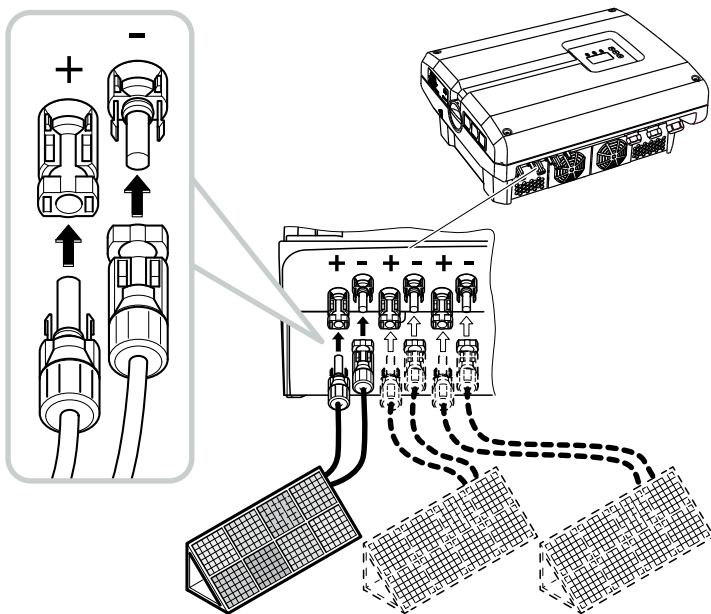

Fig. 37: Connect the PV string
6. Plug the sockets and plugs of the DC cables onto the inverter. **Fig. 37**